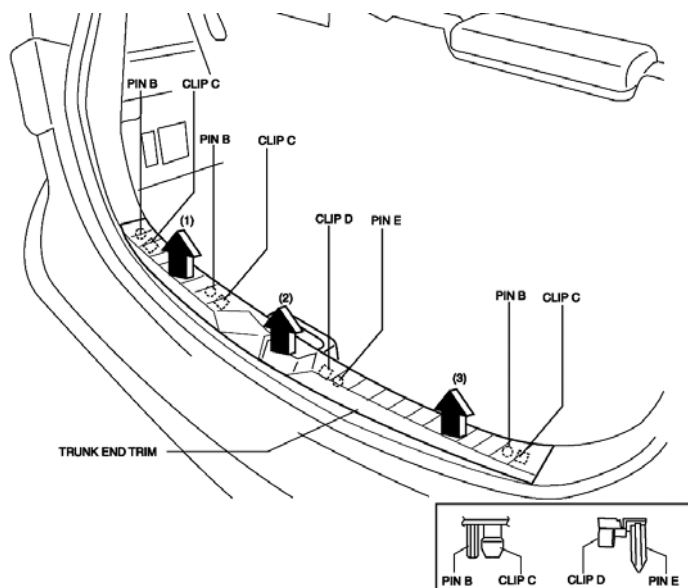

FIGURE 42
- 2.) PULL IN THE DIRECTION OF ARROWS (1), (2), AND (3) AND REMOVE PINS B, CLIPS C, CLIP D AND PINS E. (SEE FIGURE 42)